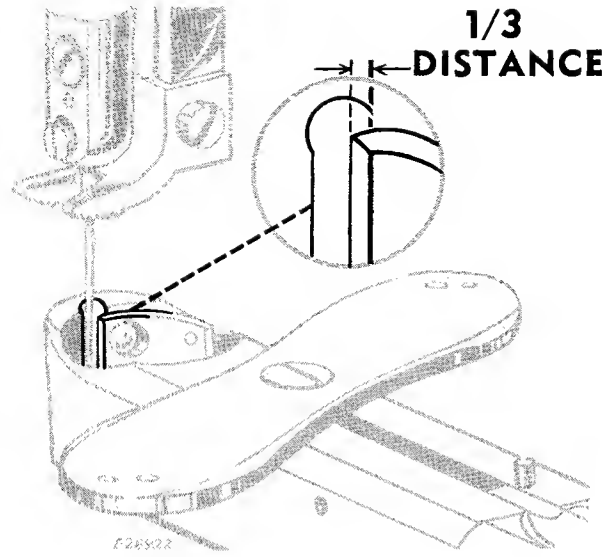

Fig. 38. Correct Timing of Shuttle Carrier
To time the shuttle, turn eccentric stud at hole **D2** until the leading edge of the shuttle carrier moves at each oscillation to a position approximately one-third the distance across the needle slot below the face plate as shown in Fig. 38.
**NOTE:** Shuttle is removed in Fig. 38 to illustrate correct timing of leading edge of shuttle carrier.